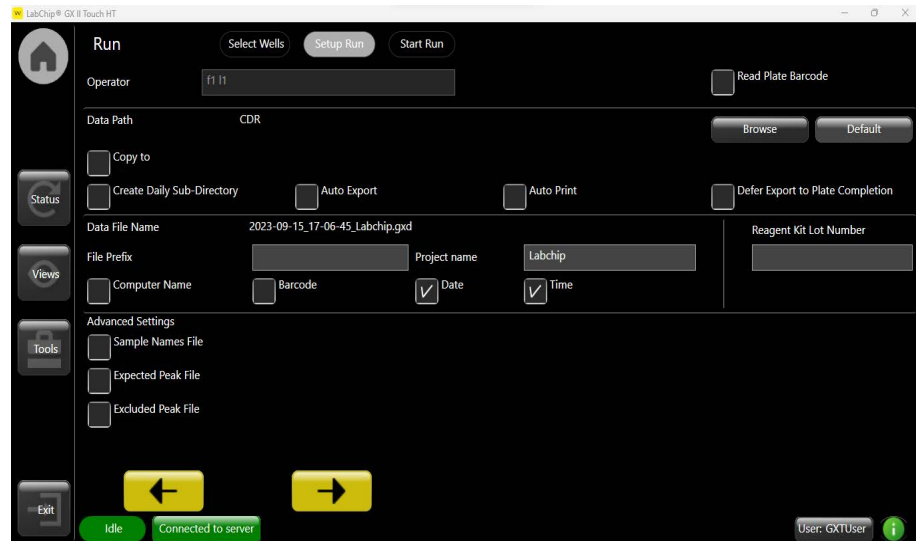

Figure 11. Run setup screen.
- 3 In the *Setup Run* tab, select the operator name, the option to read barcode, the destination of the file, the inclusion of sample names, expected peaks, and excluded peaks and the filename convention. Select *Auto Export* to export results tables automatically (Figure 11). Touch the green arrow button.